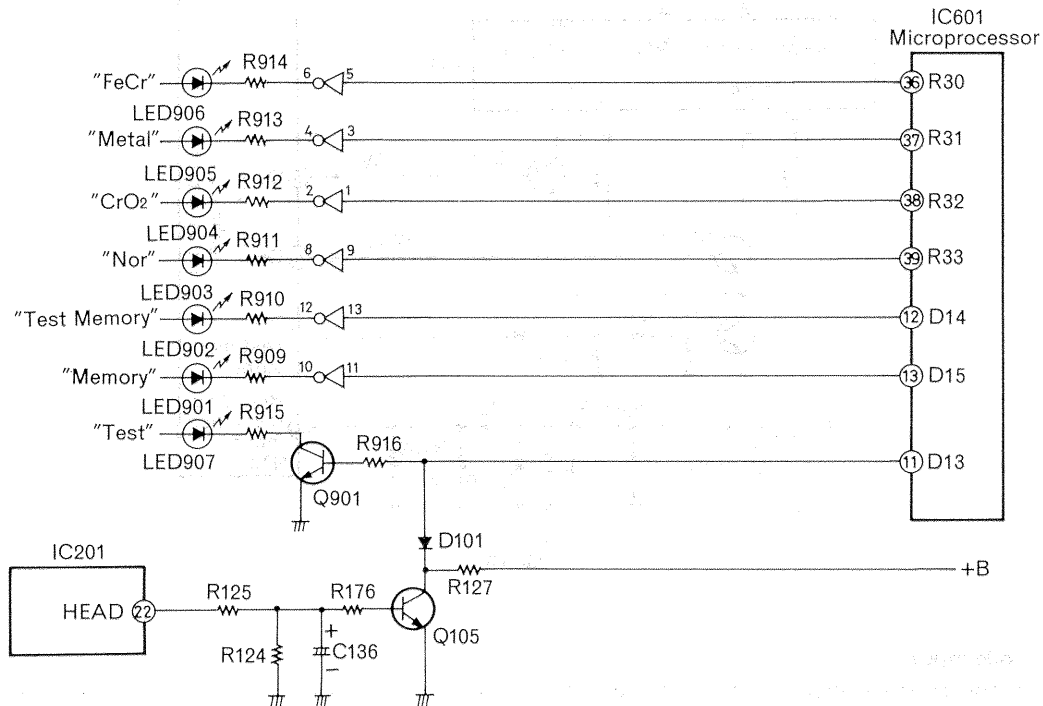

Fig. 16
Fig. 16 shows the key indicator circuit corresponding to key input. FeCr, Metal and CrO₂ outputs of terminals ③⑥-③⑧ of IC601 become REC, PLAY equalizer and REC bias circuit selection signals as well as indicator control signals.